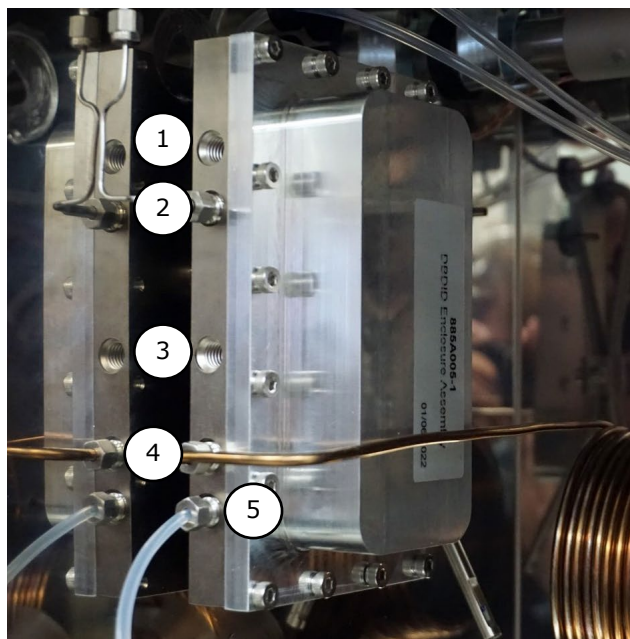

Fig. 8.17. DID Replacement Parts
8.5.8 Optional DID replacement parts (see Figure 8.17)